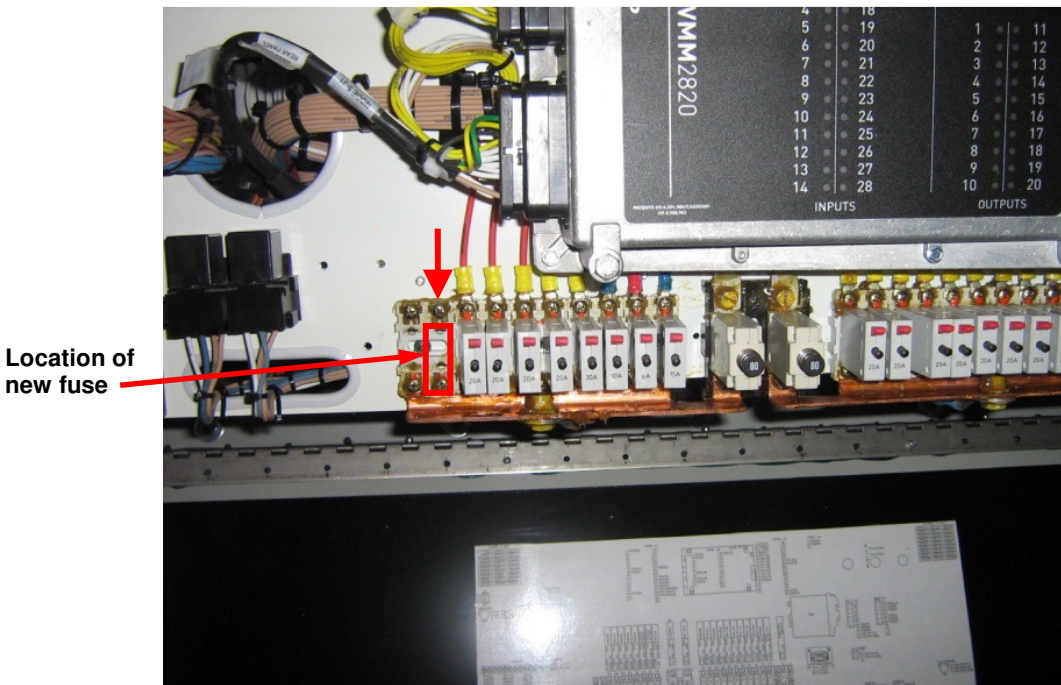

Figure 6: Rear PLC Panel – Shown Opened
- e. Connect the ring terminal on the jumper harness (NF PN 487935) to the open terminal block as shown in Figure 6. Torque the hardware to 10.6 in-lbs.